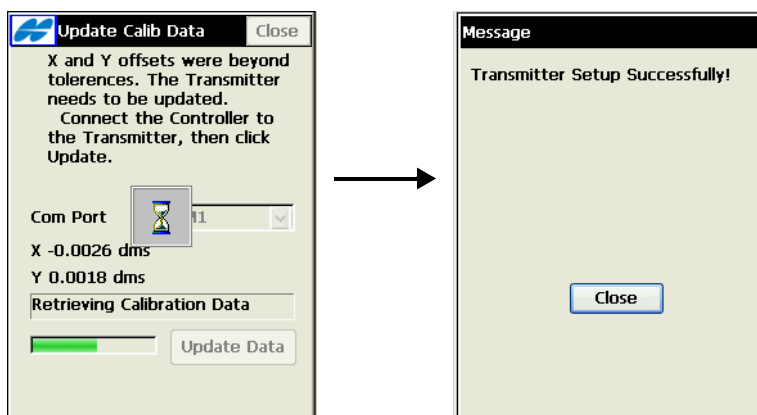

Figure A-21. Uploading Calibration Data
13. When finished, tap **Close** on the *Message* screen (Figure A-21).